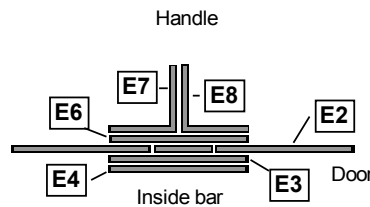

Fig. 4: Cross-section of door bar
Step 17: Glue the two parts of the interior bar [E3 and E4, Bogen 7] with their grey sides back to back, accurately aligned at the edges (Fig. 4 shows a cross-section of the structure of the bar and the door).